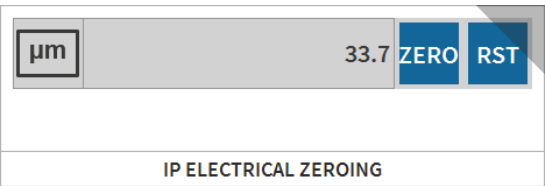
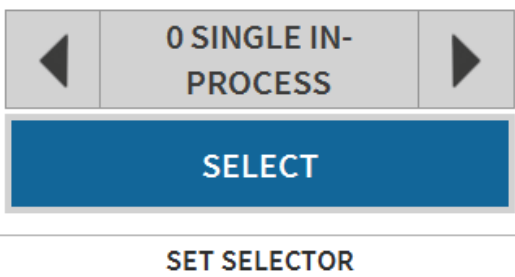

Fig.111. Electrical zero-setting widget
Fig.112. Select cycle widget
- In the case of electrical zero-setting, in both **Manual** and **Set-up** modes, use the widget (Fig.111) corresponding to the measurement associated with the transducers that were mechanically zero-set previously.
When performing the electrical zero-setting procedure we recommend using a screen where both the “Electrical zero-setting” widget (Fig.111), and the “Select cycle” widget (Fig.112) are present, so that it is possible to select the cycle on which to proceed.